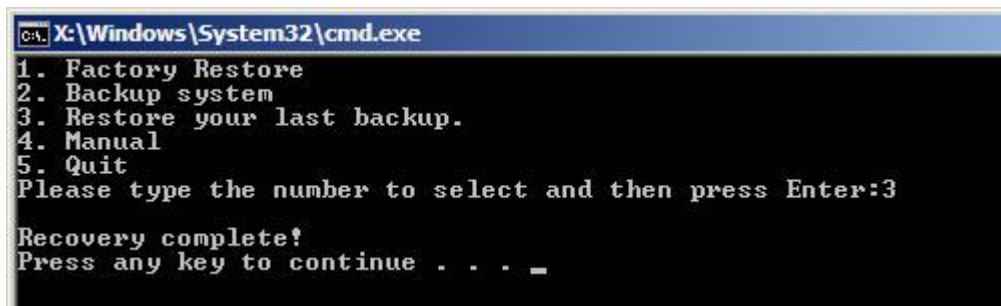

Figure A-32: Restore System Backup Complete Window
Step 3: The screen is shown as in **Figure A-32** when backup recovery is completed. Press any key to reboot the system.